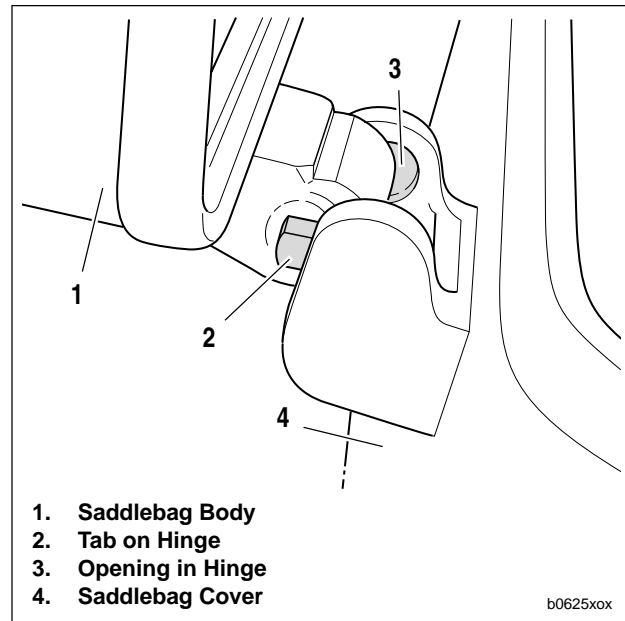

Figure 2-123. S3T Saddlebag Cover Hinge
See Figure 2-123. Two different sizes of saddlebag covers are available. Exchange covers by opening saddlebag cover to 90°. Opening (3) in saddlebag cover hinge mates with corresponding tab (2) on saddlebag body hinge.